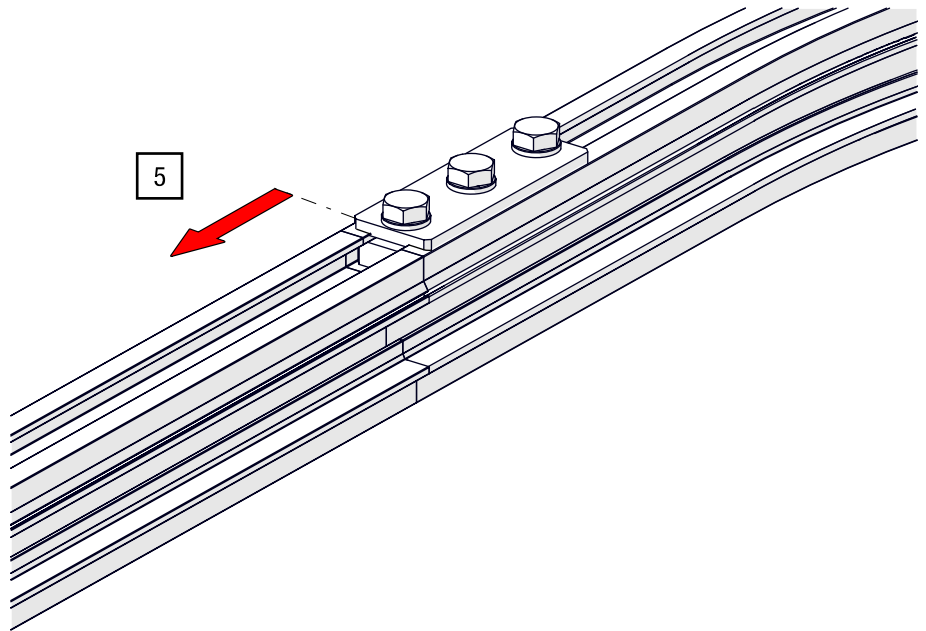

Fig. 47: Track splice – Position centrally
5. Move the track splice centrally onto the connected track sections (see Fig. 47).